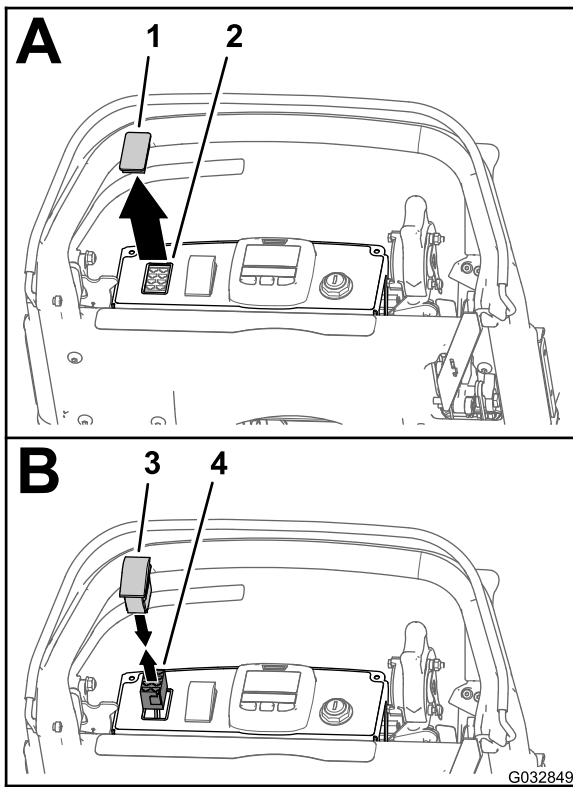

Figure 13
1. Remove the plug from the opening at the left face of the control panel (Figure 13).
2. Pull up the 8-socket connector of the wire harness for the machine through the opening in the control panel (Figure 13).
3. Connect the 8-pin connector of the 2-position rocker switch into the 8-socket connector of the wire harness for the machine (Figure 13).